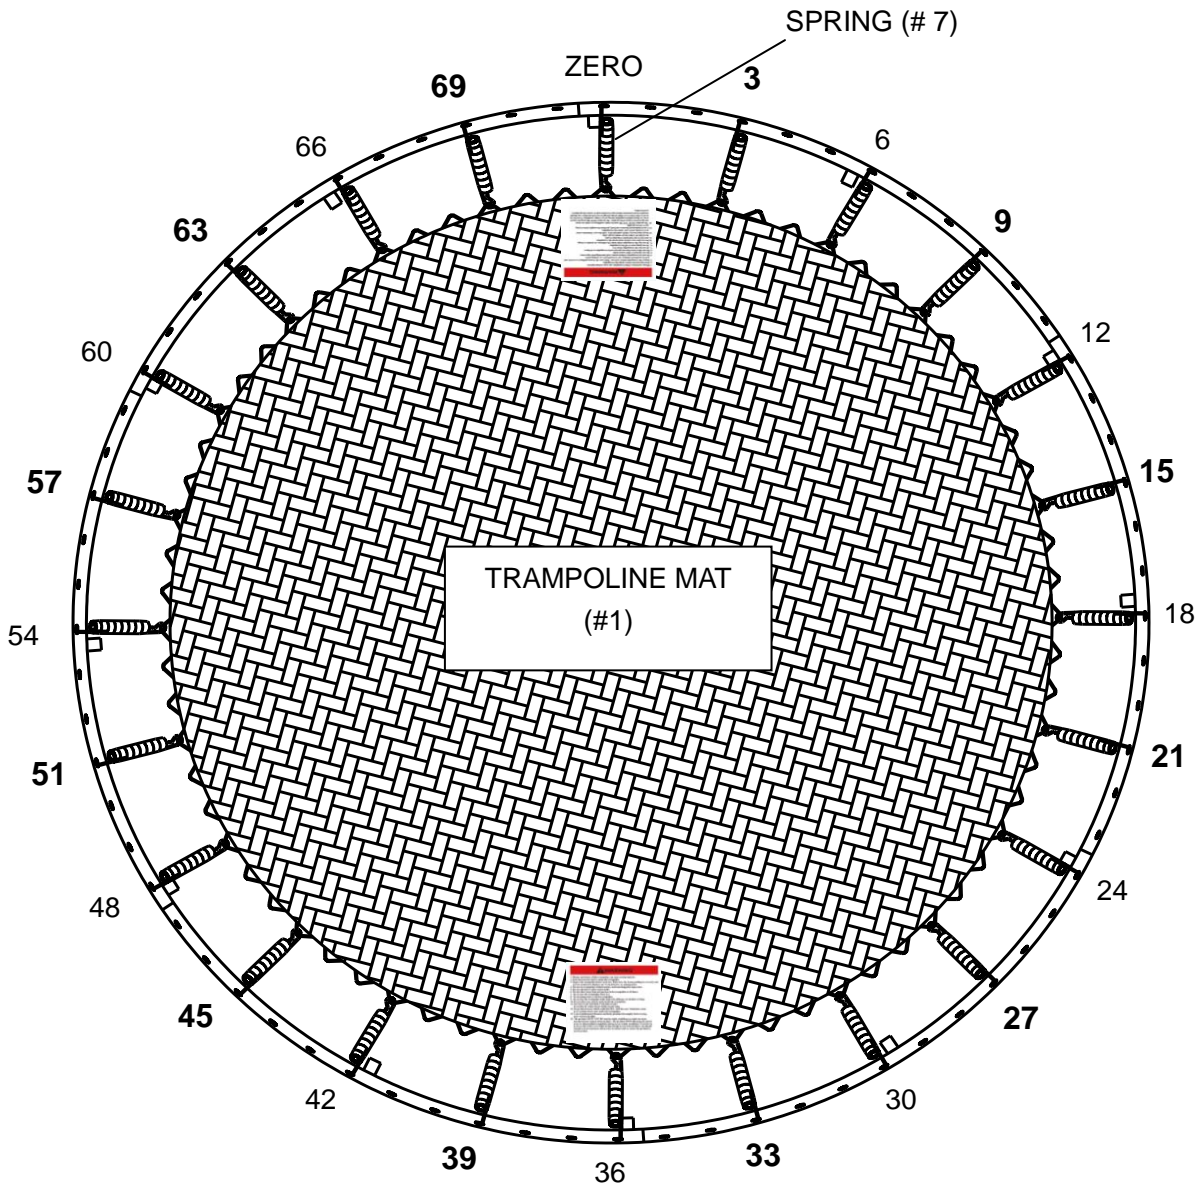

FIGURE 12
- G. Attach a spring every 3 holes and corresponding Triangle-ring. For even distribution of tension and ease of assembly, springs should be placed on opposite sides of the mat/frame. i.e. 3 then 39, 57 then 21, etc. In addition to the previously installed **springs**, you should have springs at 3, 9, 15, 21, 27, 33, 39, 45, 51, 57, 63 and 69 as shown in FIGURE 12.